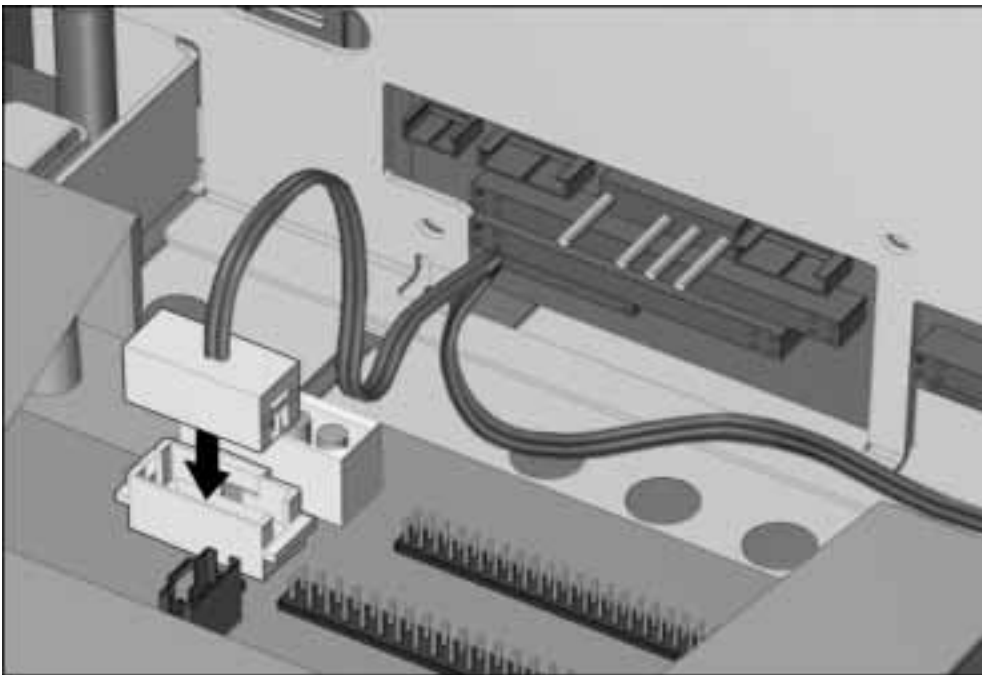

Figure 5-29. Connecting the MultiBay Cable to the Armada 7000 Half-Height MultiBay Adapter
12. Connect the MultiBay cable to the half-height MultiBay adapter (Figure 5-29).